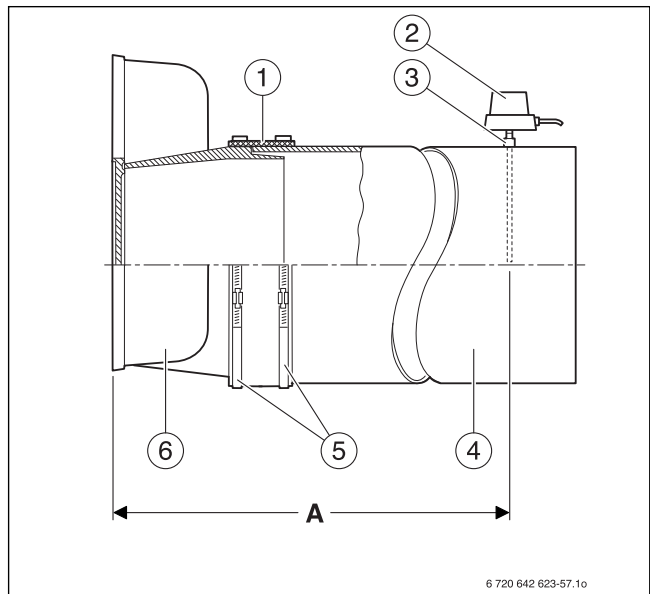

Fig. 45 Installing the vent pipe
We recommend you use a vent pipe sealing collar (→ Fig. 45, [1]).
- ▶ Place hose clamps (Fig. 45, [4]) over the vent pipe sealing collar. One of the hose clamps must press onto the draft diverter outlet and one onto the vent pipe.
- ▶ Weld a sleeve (Fig. 45, [3]) at a distance of two (2)  $\times$  vent pipe diameters (A) – min. 720 mm – from the draft diverter in the vent pipe.
- ▶ Fit the flue gas temperature sensor (Fig. 45, [2]) as described in the separate installation manual.